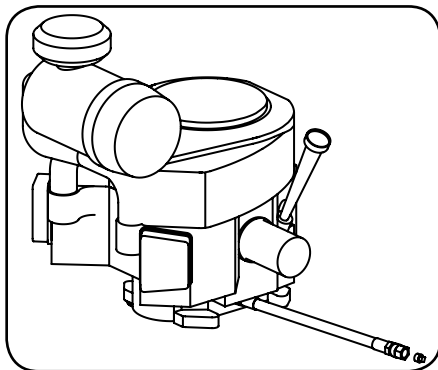

Figure 4-1
2. Locate the oil drain hose on the engine. See Figure 4-1.